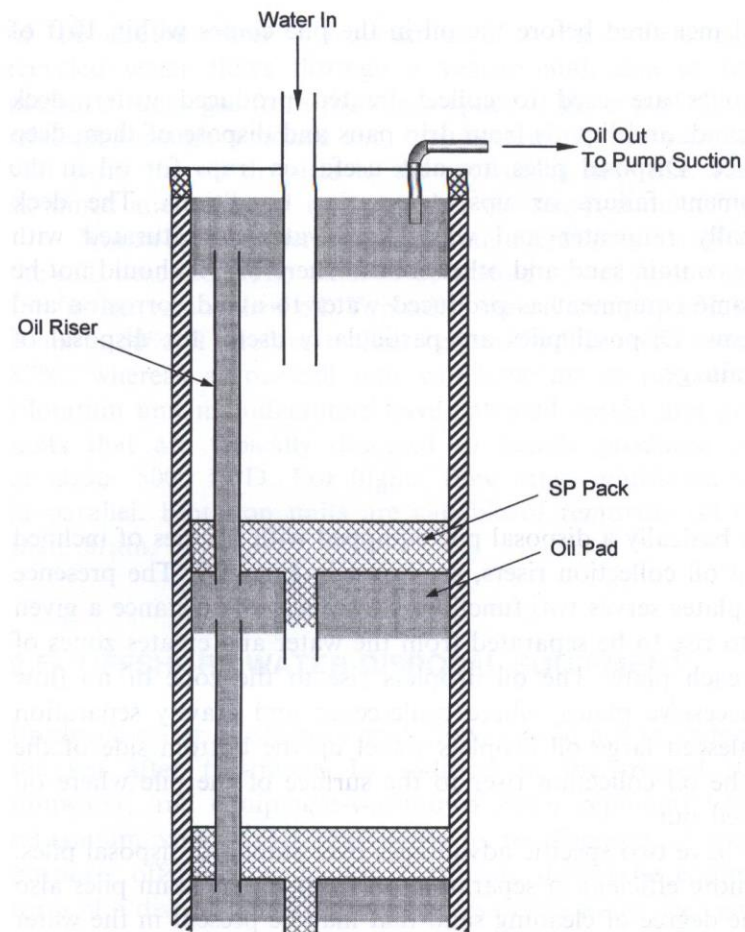

Figure 9 Schematic of a skin pile.
- Creating and dispersing the gas bubbles utilizes an inductor device (Figure 9)
- The skim pile is basically a disposal pile equipped with a series of inclined baffle plates and oil collection risers (Figure 9)